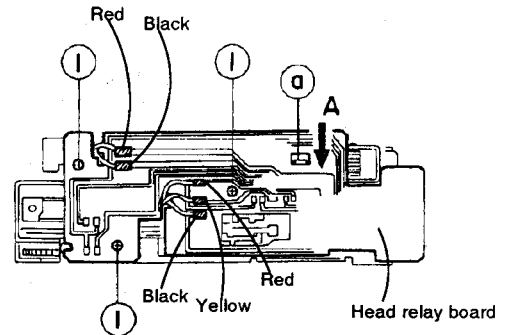

Fig. 2-11
1. Desolder the lead wires of the loading motor at the 2 positions shown (red, black). (Fig. 2-11)
2. Desolder the lead wires of the head at the 3 positions shown (red, yellow, black). (Fig. 2-11)
3. Remove the three screws ① securing the head relay PCB. (Fig. 2-11)
4. Shift the interlocking section ② securing the head relay PCB in the direction shown by the arrow A to remove the PCB. (Fig. 2-11)